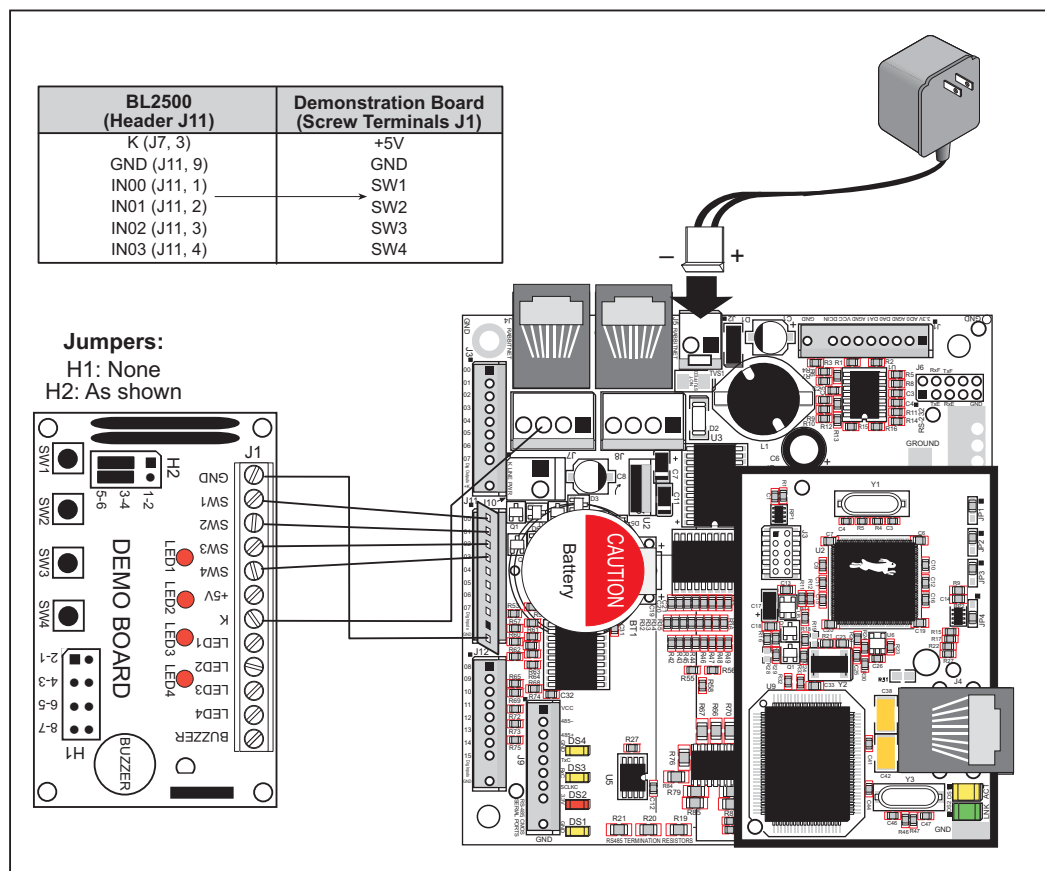
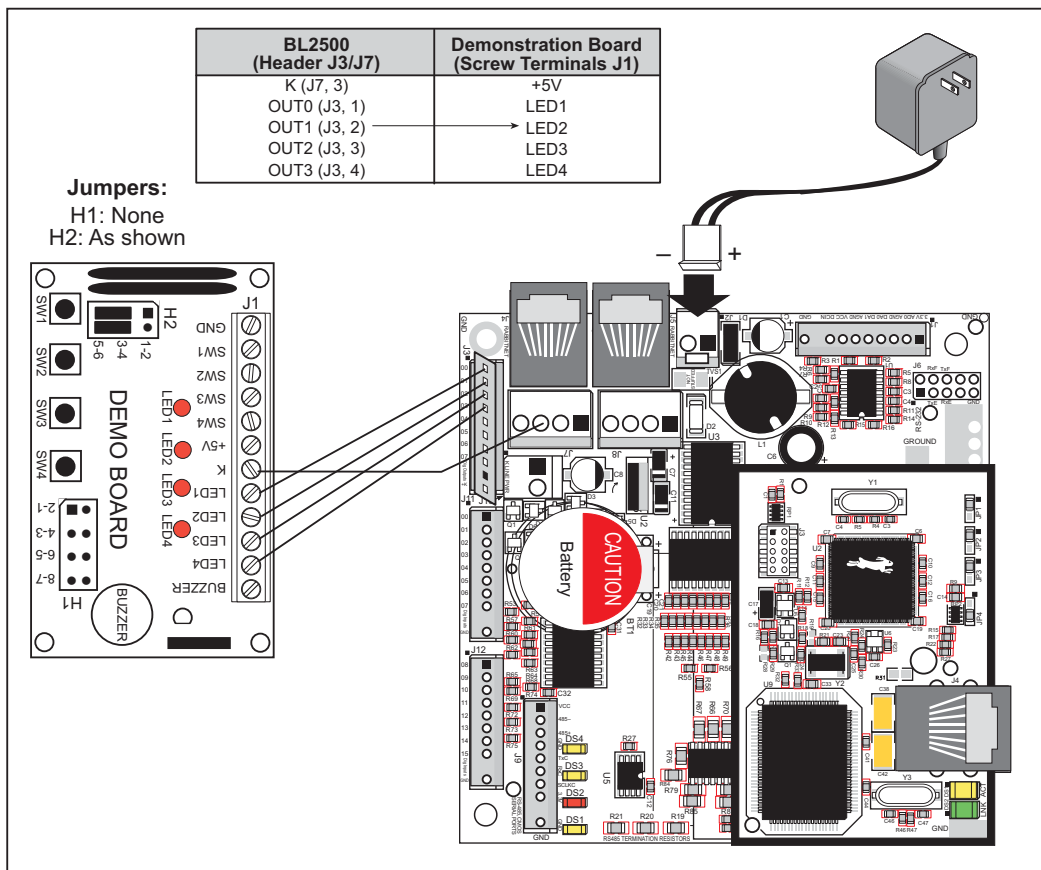
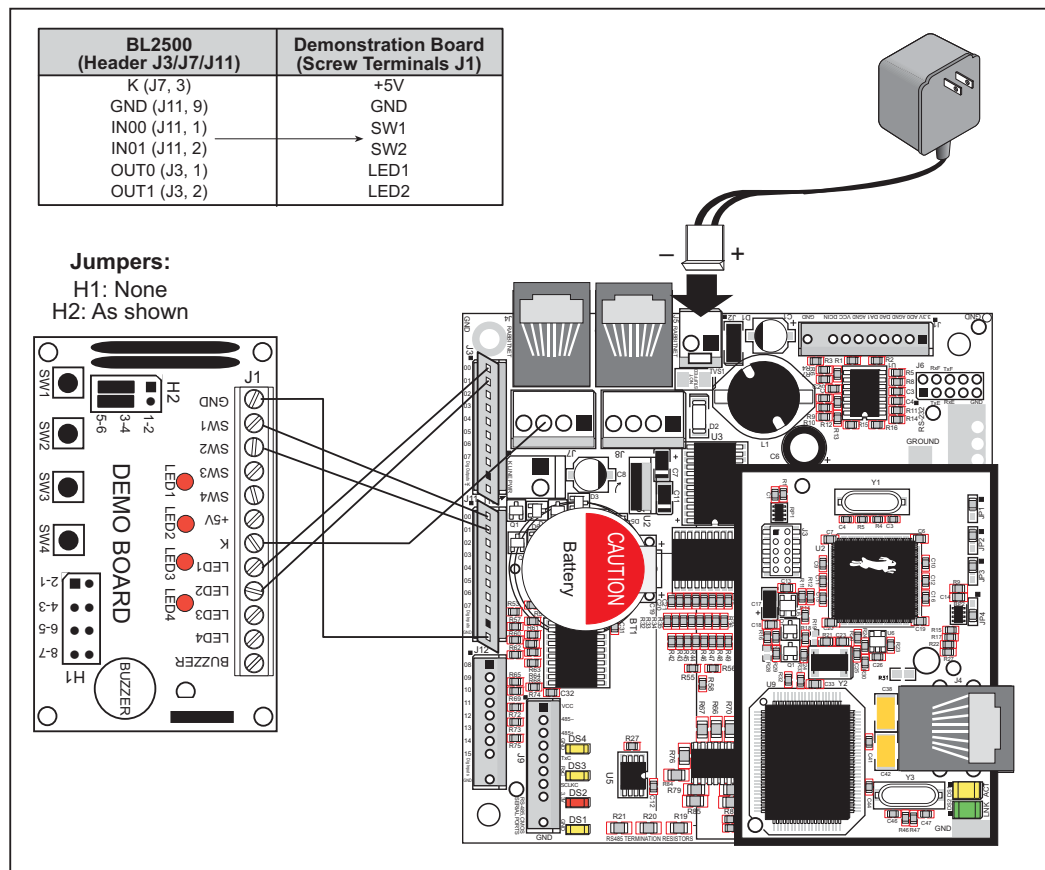

Figure C-3. Connections Between Coyote and Demonstration Board for DIGIN.C Sample Program
Figure C-4. Connections Between Coyote and Demonstration Board for DIGOUT .C Sample Program
Figure C-5. Connections Between Coyote and Demonstration Board for TCP/IP SMPT .C Sample Program
1. Use one of the wiring harnesses you have built to connect header J1 on the Demonstration Board to the Coyote. The connections are shown in Figure C-3 for sample program **DIGIN.C**, in Figure C-4 for sample program **DIGOUT.C**, and in Figure C-5 for the **BL2500\TCPIP** TCP/IP sample programs.